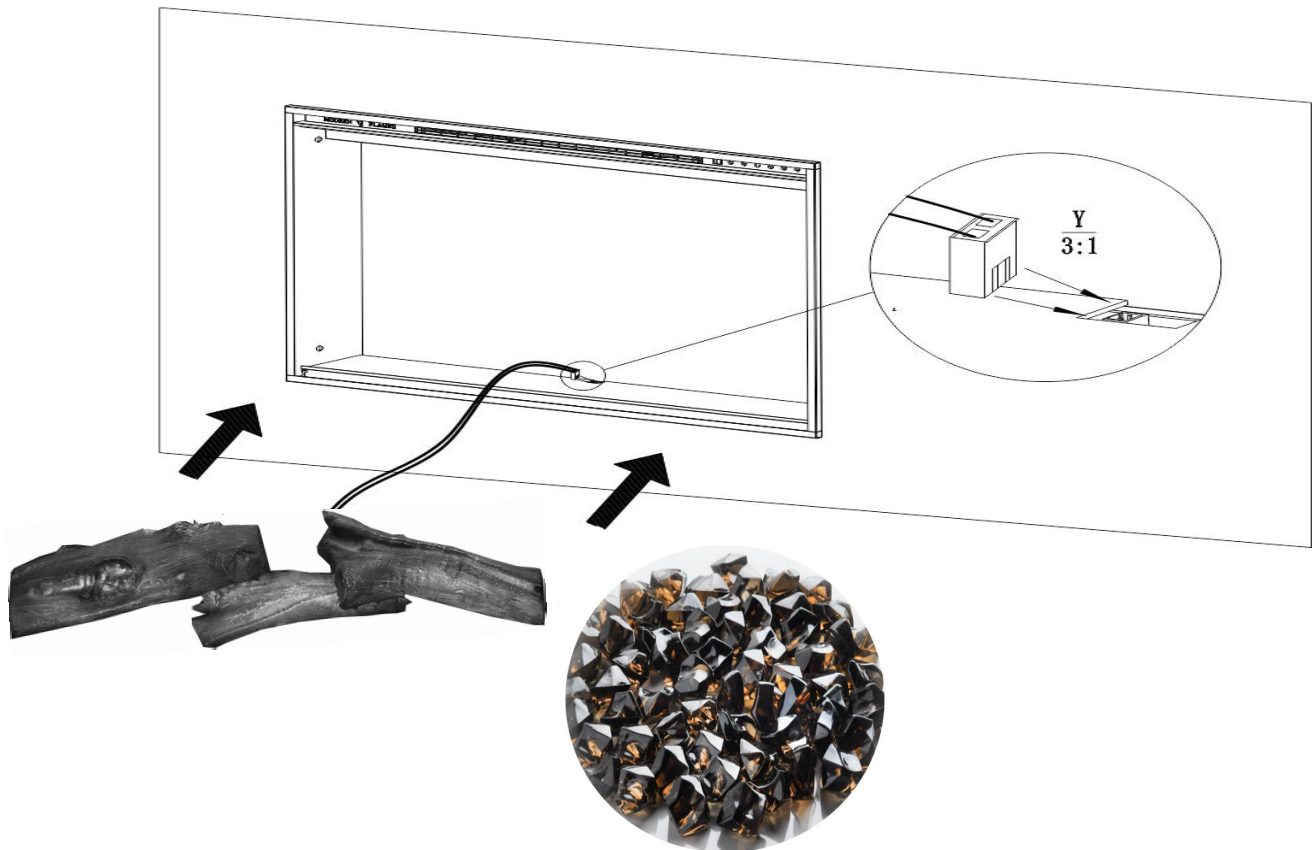

Fig.4-1
- Carefully place smoked crystals (**E**) onto the ember bed strip as Fig.4-1. Apply an even layer from side to side.